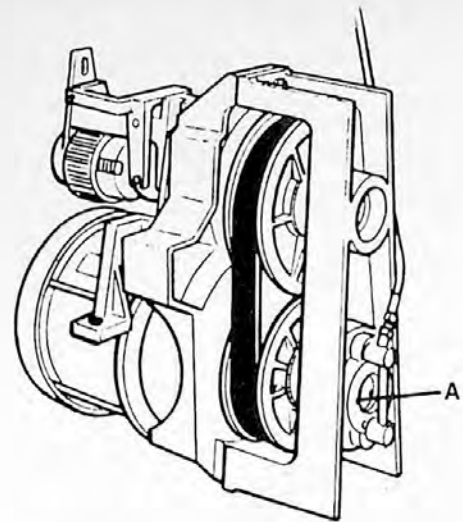

FIGURE 30
3. Loosen locknut (A, figure 30) and turn set screw until spindle rotates at 45 rpm – clockwise rotation increases speed. If a tachometer is not available, adjust until belt is flush with outside of countershaft pulley at low speed.
4. Tighten locknut (A).
5. Replace panel (B, figure 30).